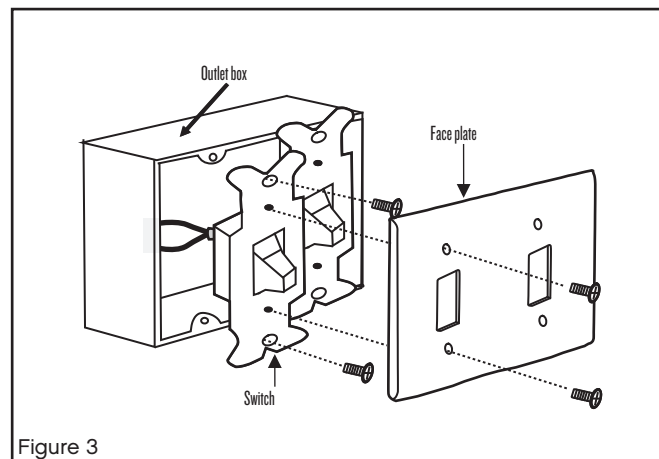

Figure 3
- 1 Slip the yoke cover, trim ring and canopy onto the downrod. (Fig. 3)
- 1 Remove the existing wall plate and old switch from the wall outlet box. (Fig. 3)
- Slide the reversing switch (located at the top of the motor housing, refer to figure 3 on page 7) to opposite position, and turn fan on again. The fan blades will turn in the opposite direction and reverse airflow.
A DOWNWARD airflow creates a cooling effect as shown in Figure 3. This allows you to set your air conditioner on a warmer setting without affecting your comfort.